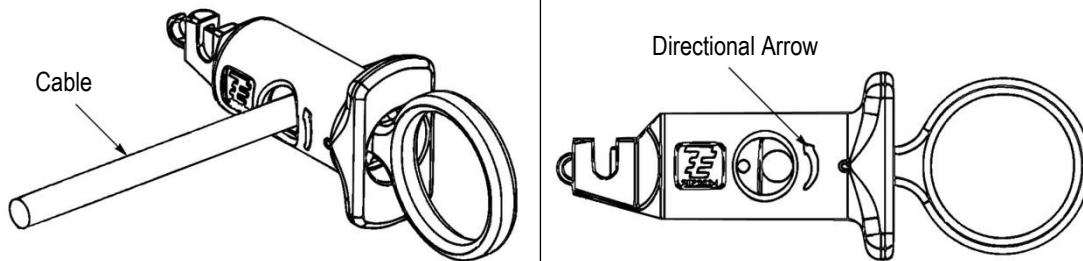

Figure 2
3. STRIPPING THE CABLE JACKET (Figure 2)
4. Rotate the tool around the wire in either direction as indicated by the arrow shown in Figure 2. Rotating the tool toward the larger arrow provides a deeper cut while rotating the tool toward the smaller arrow provides a shallower cut.